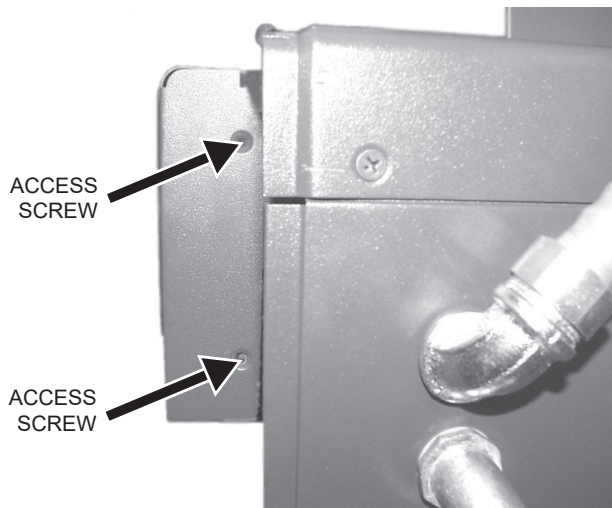

Figure 19. Control Panel Screw Location
17. Remove the (4) Phillips screws that hold the control panel to the heater and lower the control panel. **Figure 19**.
22. Reinstall the (4) Phillips screws that hold the control panel to the heater. See **Figure 19**.